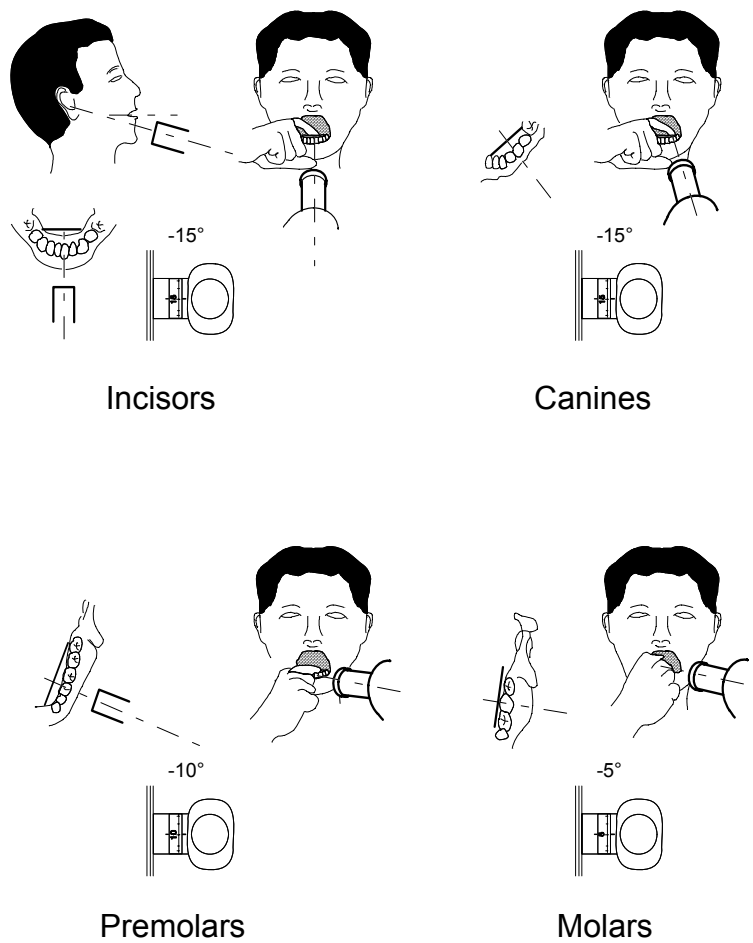
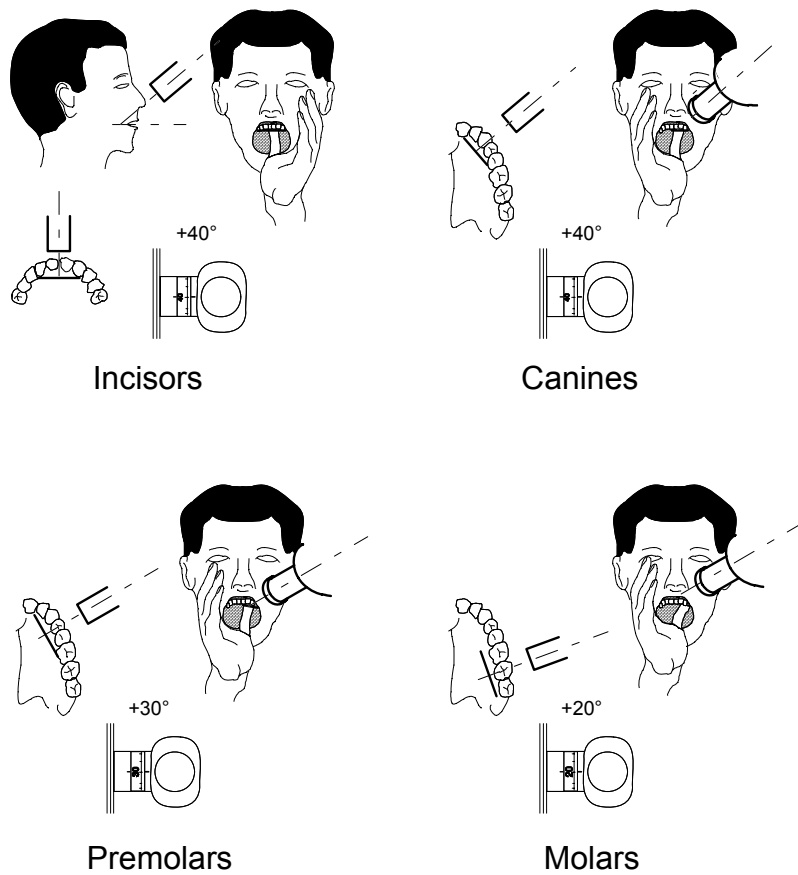
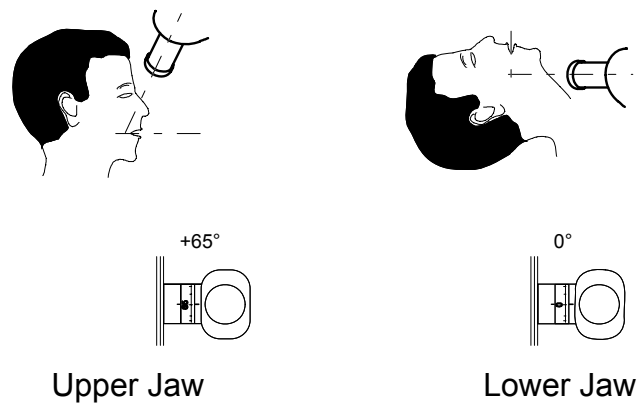
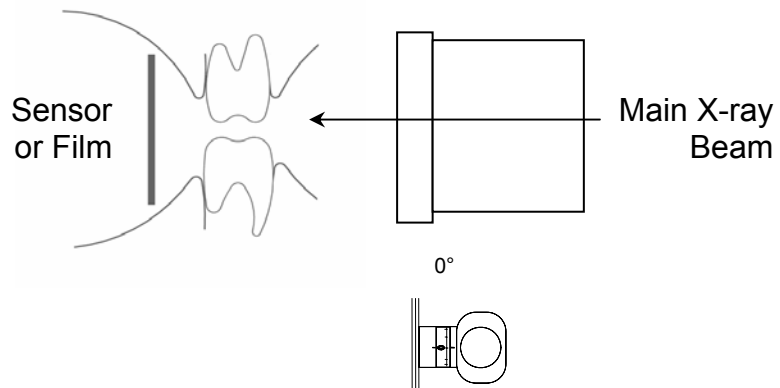

Figure 4. X-ray Head Positioning for Lower Jaw (Mandibular) Exposures
Figure 5. X-ray Head Positioning for Upper Jaw (Maxillary) Exposures
Figure 6. X-ray Head Positioning for Occlusal Exposures
Figure 7. X-ray Head Positioning for Bitewing Exposures
1. Set the X-ray Head at an angle appropriate for exposure, given the considerations for anatomy and X-ray Head placement (see **Figure 4, Figure 5, Figure 6, Figure 7**).